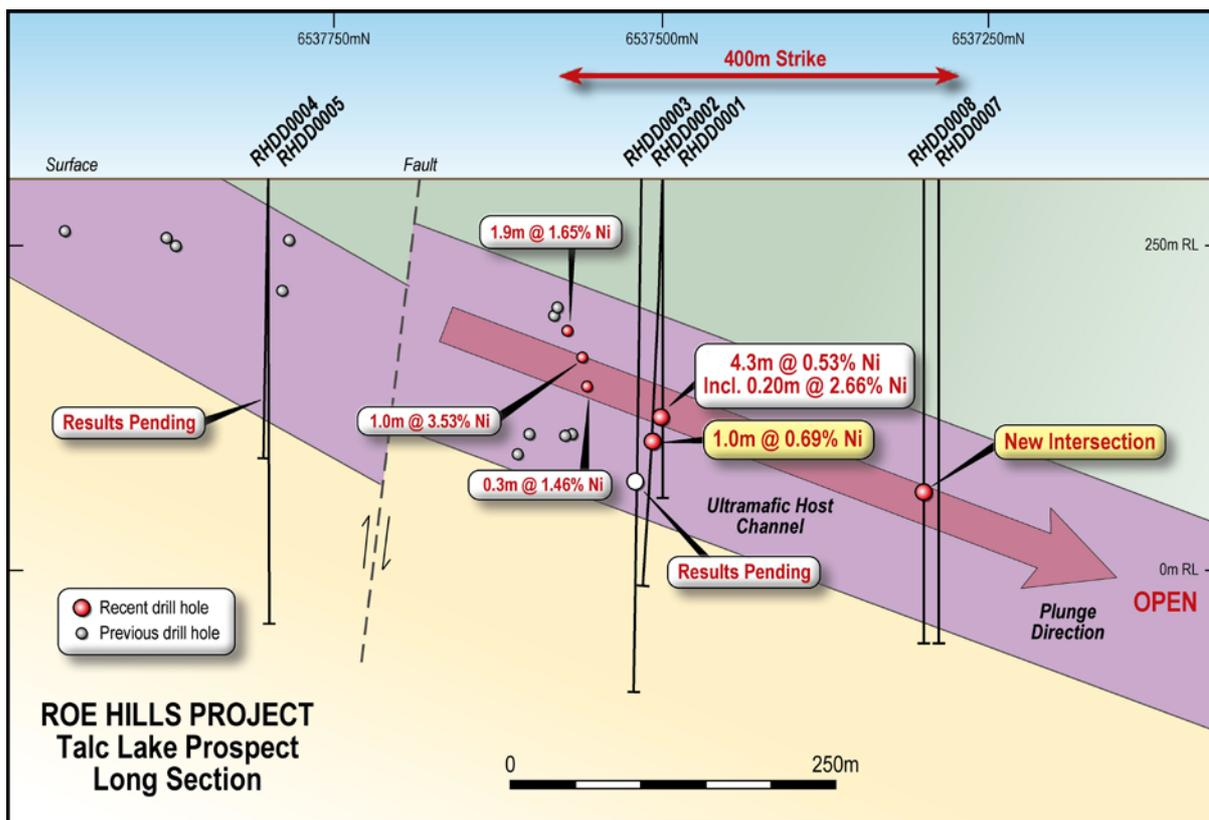

Figure 1: Talc Lake long-section showing Nickel Sulphide intersections and geological interpretation.
- **New Nickel Sulphide has been intersected in Diamond drill hole RHDD0008 (Figure 1) located 200m south of the previously announced high grade intersection of 11.0% Ni (as individual PXRF readings). RHDD0008 intersected Ni mineralisation over a width of almost 2m occurring as series of pyrrhotite-pentlandite sulphide blebs and thin veins. Individual blebs have returned Ni grades of up to 2.3% Ni using Portable XRF Analyser (PXRF).**
Diamond drill hole RHDD0008 (Figure 1) has intersected new Ni mineralisation within a 2m zone from a down hole depth of ~243m. The nickel sulphides occur as a series of high tenor pyrrhotite-pentlandite sulphide blebs and thin stringer veins. RHDD0008 is located 200m south of RHDD0001 which returned the previously announced high grade intersections of up to 11.0% Ni (as individual PXRF readings) and returned the following laboratory assay results.
The individual sulphide blebs in RHDD0008 have returned Ni grades of up to 2.3% Ni using a Portable XRF Analyser (PXRF). The sulphide intersection is hosted towards the base of the orthocumulate komatiite lava flow that is ~30m thick with a sheared basal contact. Nickel mineralisation has now been intersected over a continuous distance of 400m (Figure 1) and this intersection further confirms that the system is consistent with the Company's geological "Cabbage Leaf" model (Kambalda style komatiite flows) as shown by (Figure 2). This down plunge extension significantly expands the projects prospectivity of a major discovery as these disseminated styles of mineralisation typically lead to massive nickel sulphide accumulations downstream (Figure 2).
This recent drilling intersection also adds to the significant historical results from the Talc Lake Project (as previously report) which are now beginning to define the nickel hosting channel which MPJ is targeting (Figure 1 & 3);